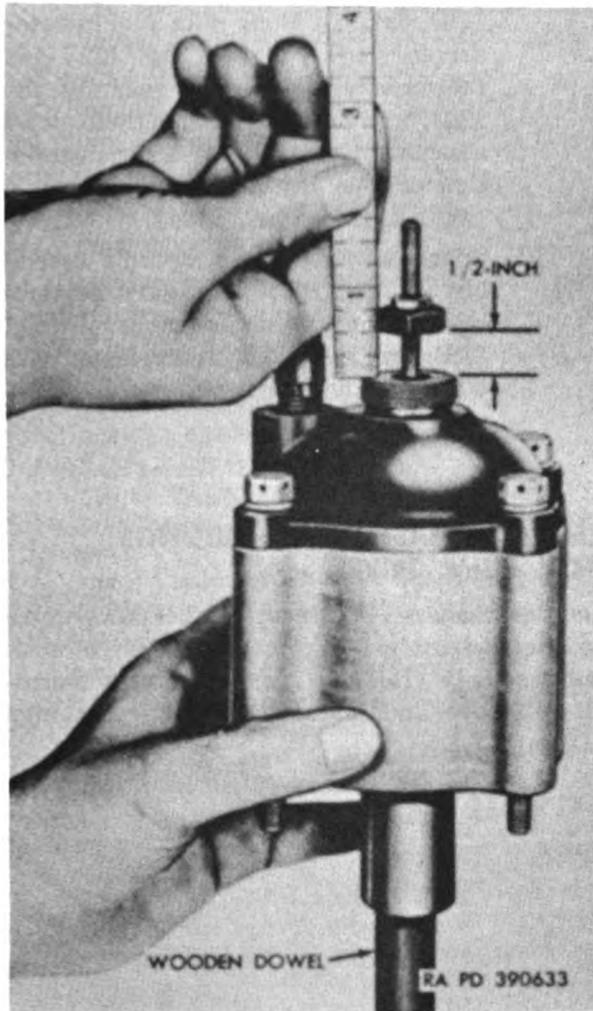

Figure 129. Adjusting length of fuel injector oil booster pump stroke.
- (6) Position large piston (M) over threaded portion of shaft and into housing and secure with  $\frac{1}{4}$ -inch hex nut ( $\frac{3}{32}$  thick) (N) and  $\frac{1}{4}$ -inch hex nut ( $\frac{1}{8}$  thick) (P).
- (7) Coat threads on  $\frac{1}{4}$ -inch 90 degree elbow (X) with gasket forming compound and install elbow in cover (Q). Position a new cover gasket (G) and cover on housing. Install four  $\frac{5}{16}$  x  $3\frac{3}{4}$  hex-head bolts (T) and  $2\frac{1}{64}$  id,  $\frac{9}{16}$  od, 0.0630 thick flat washers (S) through cover and into body to hold cover in place.
- (8) Install  $\frac{1}{4}$ -inch hex jam nut (W) and  $\frac{1}{4}$ -inch hex nut ( $\frac{1}{8}$  thick) (V) on shaft. Adjust length of pump stroke as described in (a) through (d) below.
- (a) Insert wooden dowel into extension on housing behind small piston as shown in figure 129.
- (c) Screw  $\frac{1}{4}$ -inch hex jam nut (W) down on shaft to a distance of  $\frac{1}{2}$  inch, measured between face of nut and face of cover.
- (d) Lock jam nut in position by tightening  $\frac{1}{4}$ -inch hex nut ( $\frac{1}{8}$  thick) (V) against jam nut. Remove pump slowly from dowel.
- (9) Position a new cap gasket (R) on cover and install cap (U) over gasket.